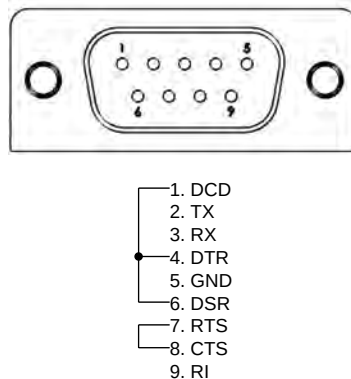

Figure 8–13 RS-232 Interface
1. Remove the two Philips pan head screws at each side of the cover of DSP7000 as shown in *Figure 8–1 DSP7000 Top Cover*, and then remove the cover.